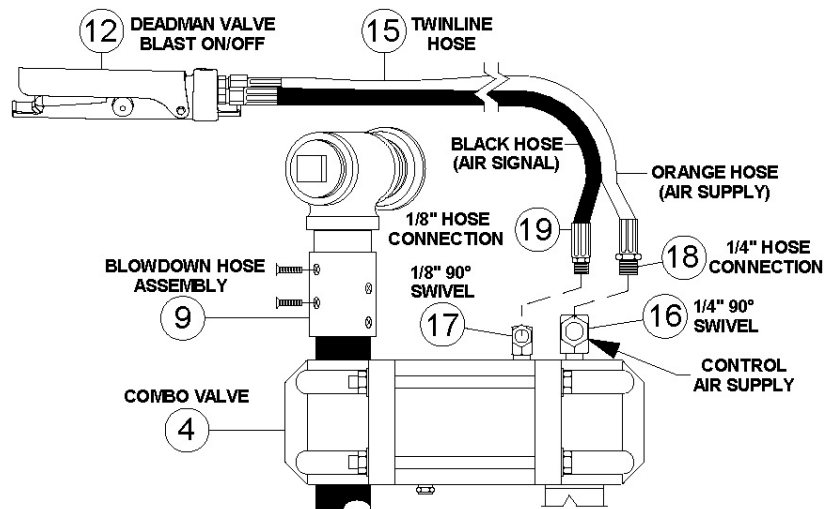

Figure 5.3 – MV3/Combo Pneumatic Deadman Blast Control System
5.8.1. Pneumatic Deadman System: When the pneumatic deadman (#12) lever is pressed down, air supply from the orange hose of the twinline hose (#15) flows into the black hose. Air flows through the black hose to the signal port of the ComboValve (#4) to open it and send air into the abrasive blaster and blast air hose. When the deadman lever is released the air signal is cut off and the ComboValve is closed to shut off the supply air and depressurize the blaster through the blowdown hose assembly (#9). See Figure 5.3 and the drawings in Sections 9.1 and 9.2.